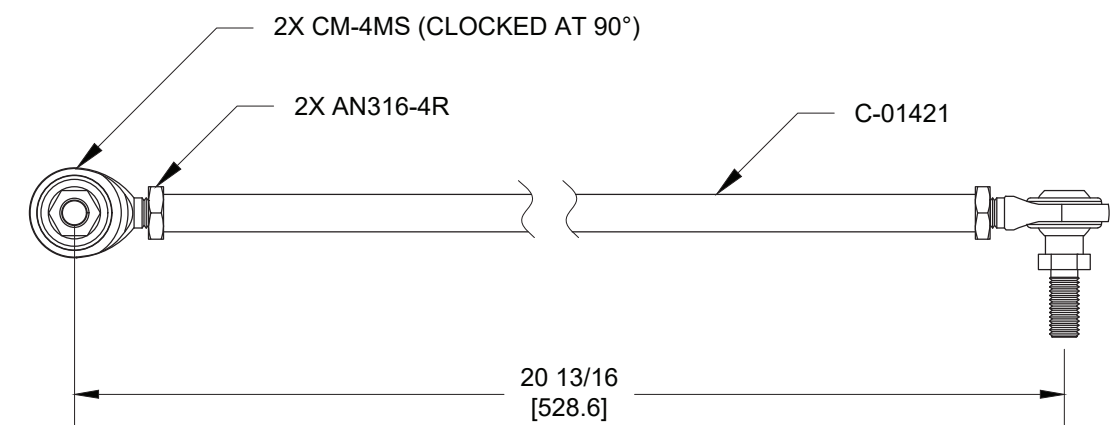

FIGURE 4: CANOPY LATCH PUSHROD ASSEMBLY
Step 13: Fabricate the Canopy Latch Pushrod Assembly as shown in Figure 4.